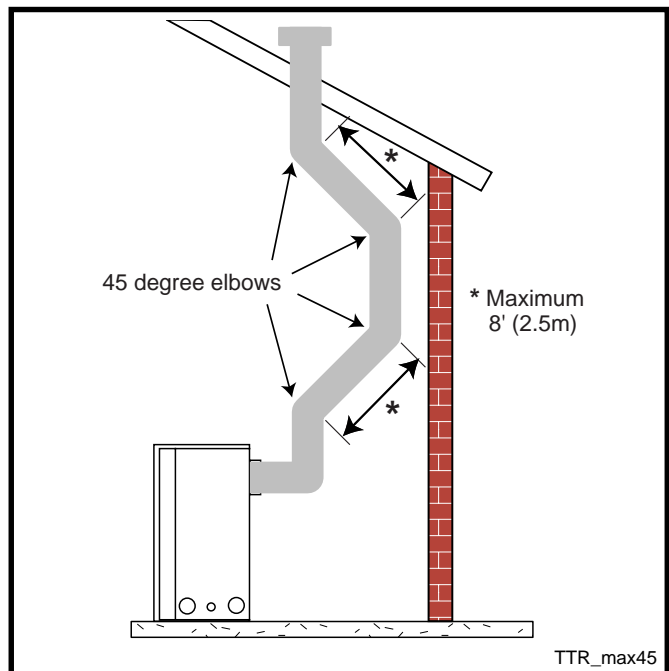

Fig. 31 Maximum elbow usage.
- The maximum angular variation allowed in the system is 270° (Fig. 31).